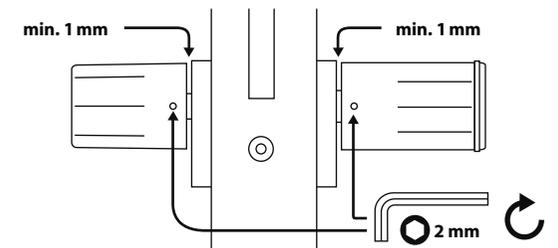

Fig. 103
- 6 Screw the hexagonal screws back into the two knobs (Fig. 103).